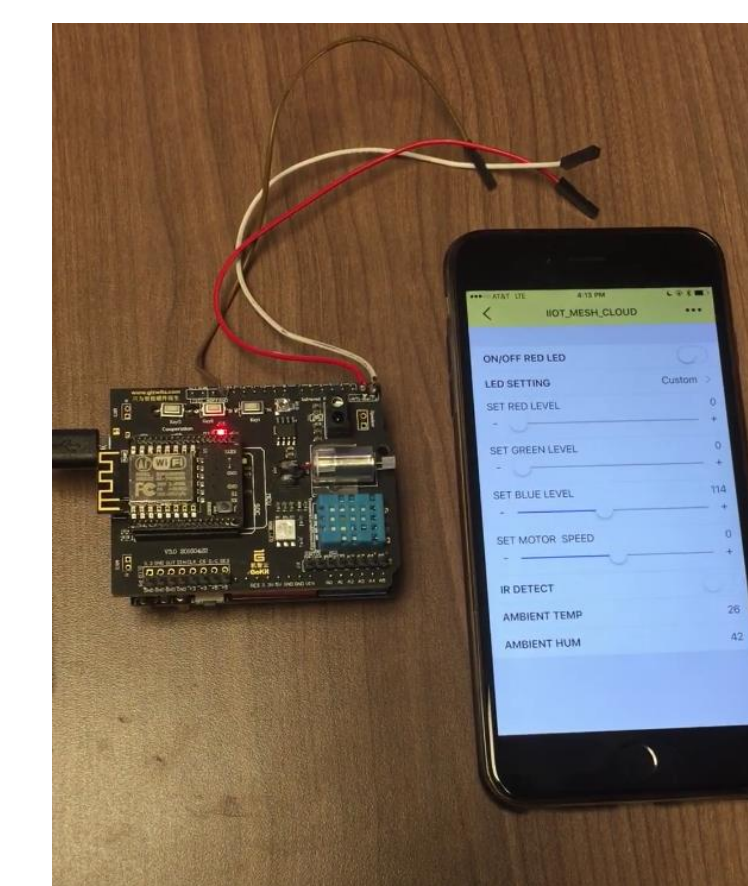

Fig. 5 Cloud Computing
- Cloud Computing** – For this, we can actually control our system from anywhere through internet (as shown in Fig. 5) but we may have to deal with the latency though.